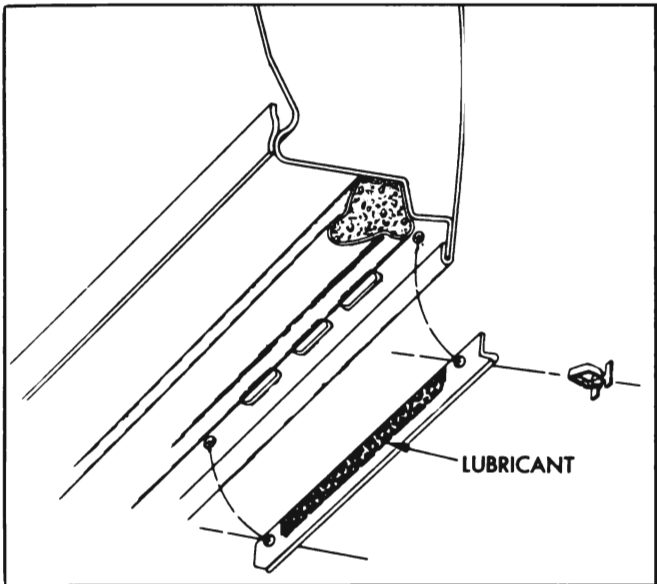

Figure 13-31—Drain Hole Sealing Strip
Two (2) bottom drain hole sealing strip are located on the bottom of each door. Each sealing strip is attached to the door inner panel by a snap-on fastener at each end of the strip. To prevent the strip from adhering to the door inner panel and blocking the drain holes, apply a sparing amount of silicone rubber lubricant on the center section of the weatherstrip as indicated in Figure 13-31.